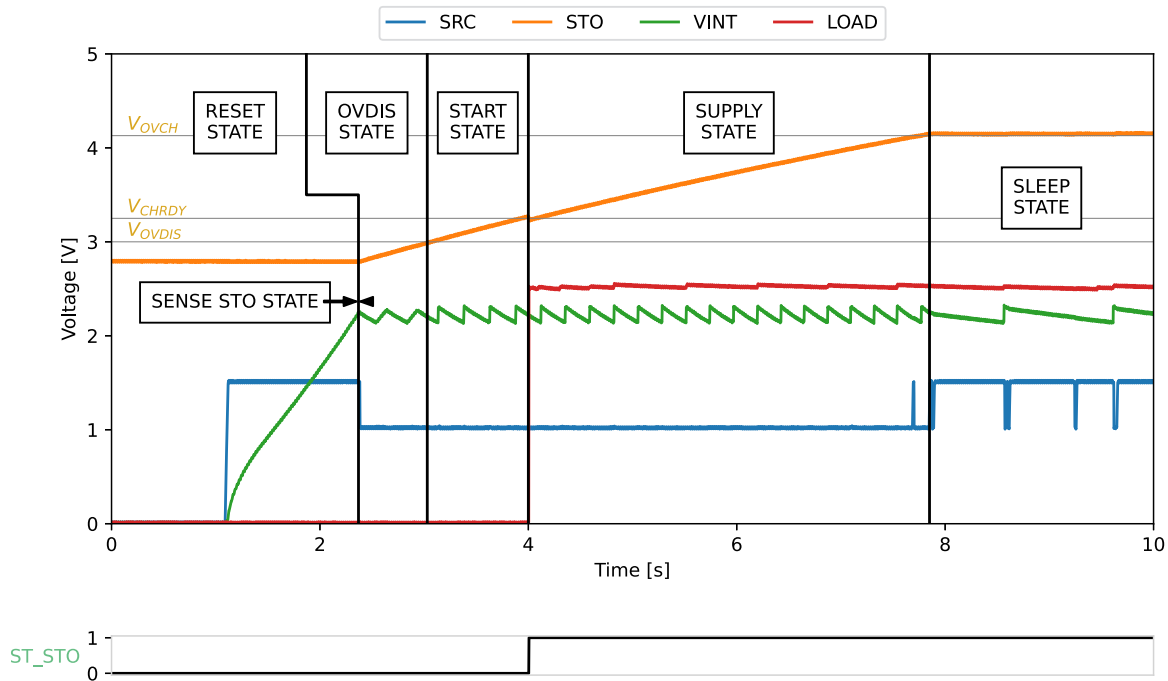

Figure 11: Start up behavior
- Around 8.6 s and 9.6 s on Figure 11, the AEM00920 recharges **VINT** from **SRC** but remains in **SLEEP STATE**.